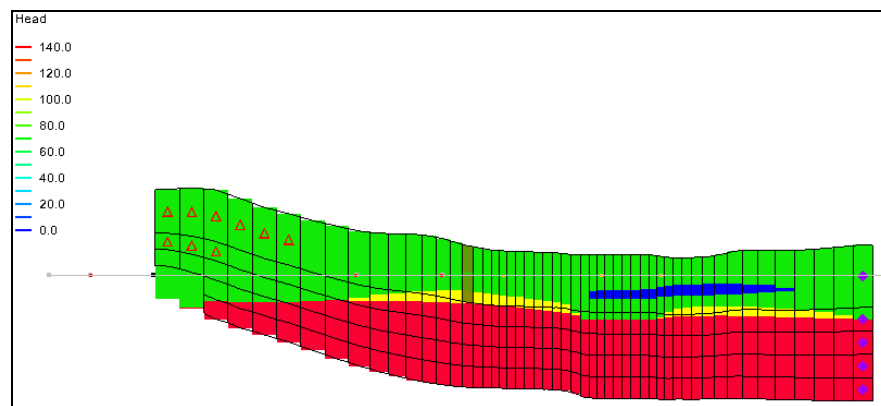

Figure 19 HUF data visible in front view
9. Use the arrow buttons  in the Mini-Grid Toolbar to view the grid along different columns (Figure 19).